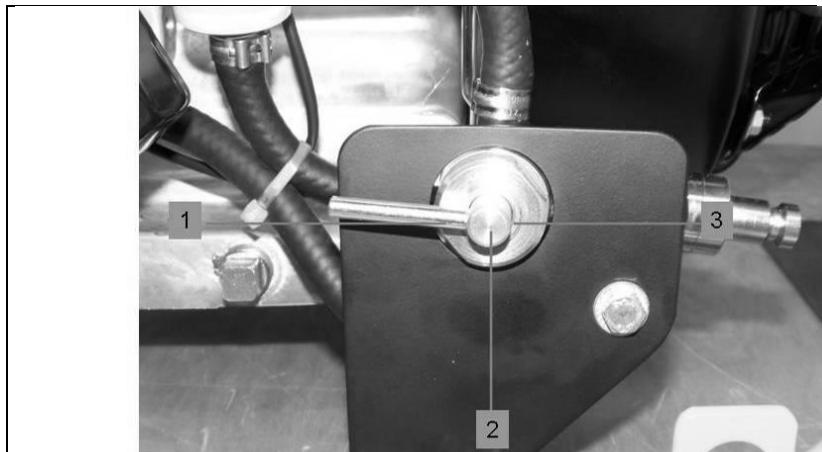

Figure 5-10: 3-way fuel valve
3. Set the fuel cock to the internal tank (*Figure 5-10-(2)*).
8. Set the fuel cock to "external fuelling" (*Figure 5-10-(3)*).